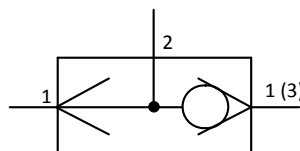

FIG 2.
B. The symbol for a shuttle valve is shown in Fig 2.